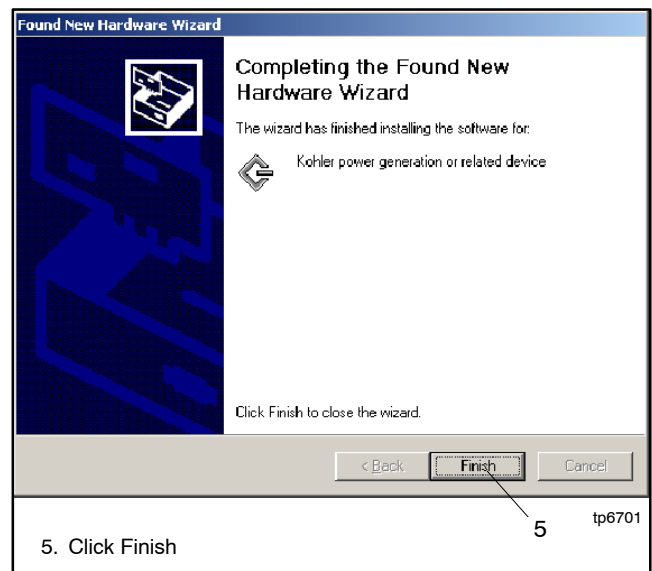

Figure 3-5 Last New Hardware Wizard Window
5. See Figure 3-5. Click Finish.